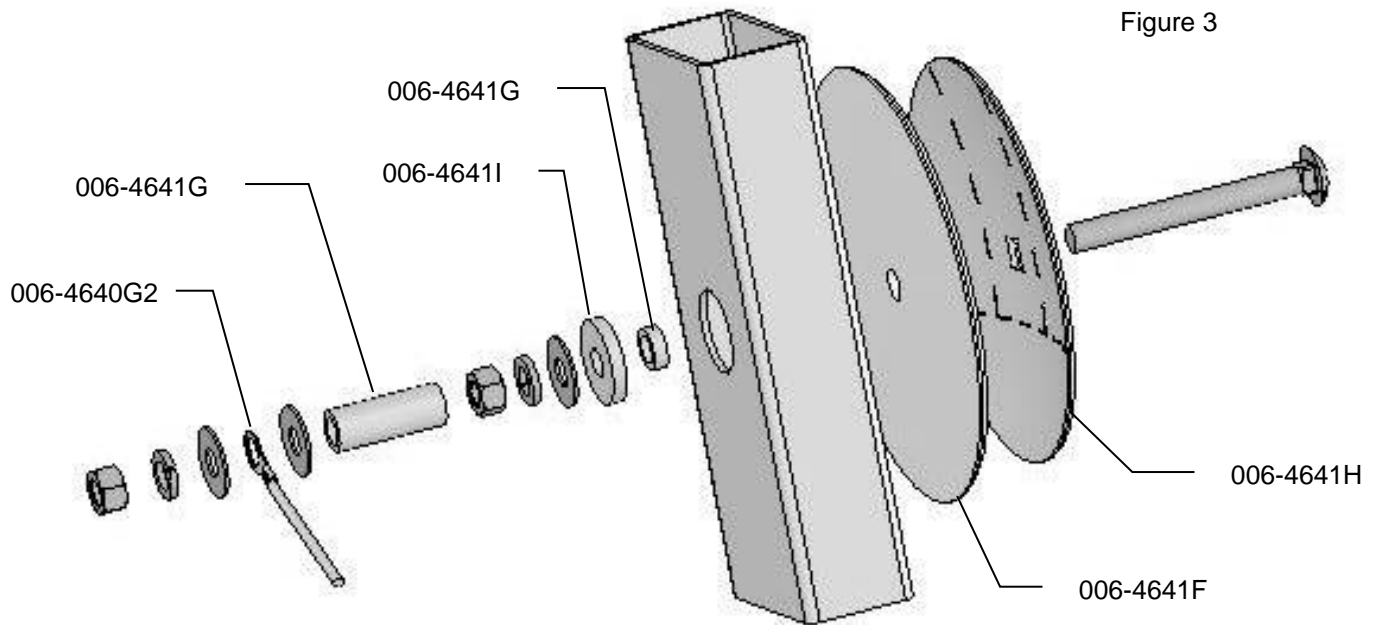

Figure 3
4. Locate the 006-4641G. The piece will need to be cut down to size. Use the already machined line in the bushing to cut off the small piece shown above. (Figure 3)